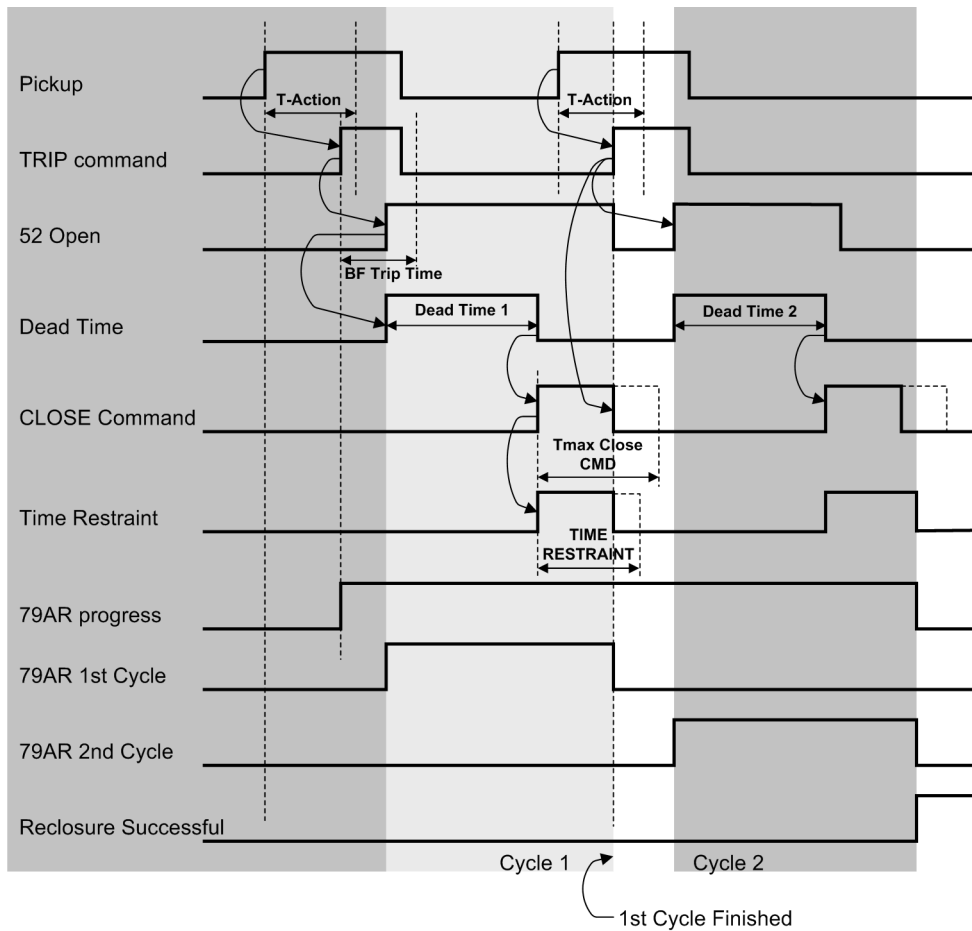

Figure 2-77 Timing diagram showing two reclosing shots, first cycle unsuccessful, second cycle successful
The 7SJ80 is equipped with an integrated three-pole, single-shot and multi-shot automatic reclosure (AR). Figure 2-77 shows an example of a timing diagram for a successful second reclosure.